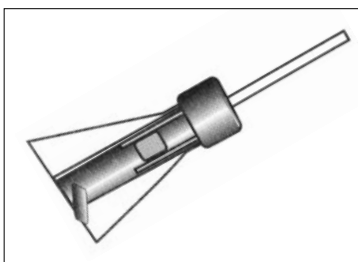

Figure 3a. Magnetically Driven Paddle with Glass, Polysulfone, or optional Stainless Steel Shaft
- Packaged with Magnetically Driven Paddle with Polysulfone or Glass Shaft (Fig. 3a)
- Packaged with Magnetically Driven Paddle with Glass, Polysulfone or optional Stainless Steel Shaft (Fig. 3a)